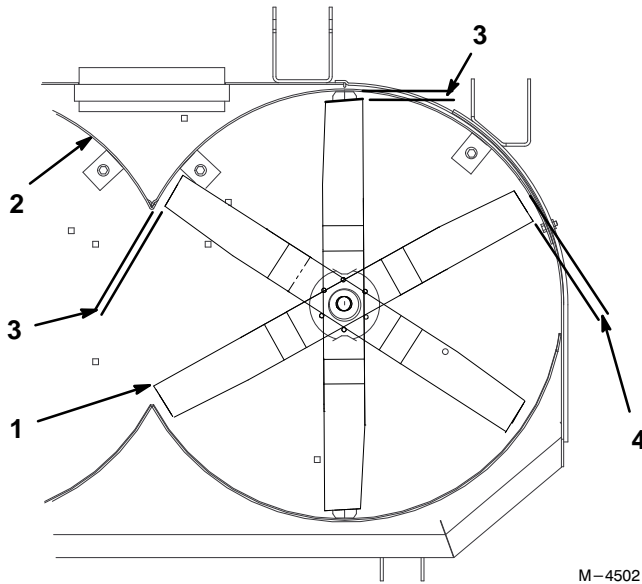

Figure 4
3. To determine where you need to drill holes, arrange the baffle in the mower as shown in Figure 4. Rotate the blade to ensure that the clearance between the tip of the blade and the baffle is correct.
IMPORTANT: Make sure the clearance between blade tip and baffle is correct. Refer to Figure 4.
7. Rotate all the blades to ensure that there is at least 1/4" and 3/8" clearance between the blades and baffles (Fig. 4).